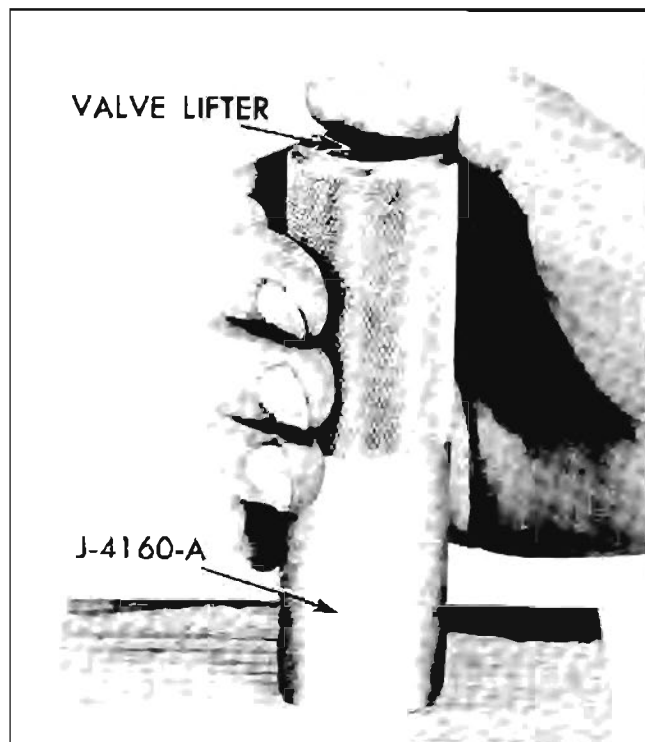

Fig. 6-86 Removing Stuck Plunger
2. Invert lifter and allow push rod seat and plunger to slide out of body. If plunger sticks in body, place lifter in large end of Hydraulic Valve Lifter Plunger Remover, J-4160-A, with push rod end of lifter downward. Hold tool firmly in hand with thumb over lifter body and sharply strike the tool against a block of wood (Fig. 6-86) until plunger falls out. **NOTE:** It may be necessary to soak a lifter having a stuck plunger in cleaning solvent for several minutes in order to remove the plunger.